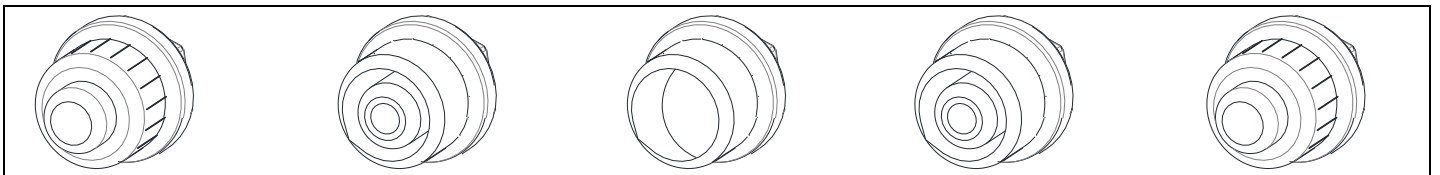

Fig 14 – Replacing the battery
- To turn off the device, simultaneously press and turn the knob all the way clockwise (Fig 14). The gas supply will be cut and the flame on burner will be turned off.